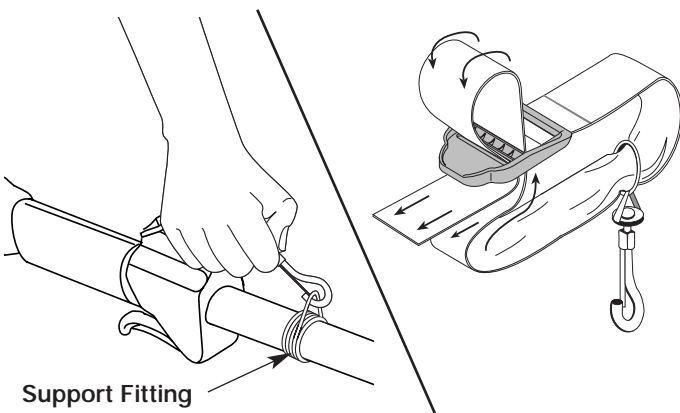

Fig. 5
2. Pull the strap over the cross bar and down through the slot in the buckle (Fig. 5).
3. Put the harness on over head and onto shoulder. Snap it on to the support fitting (Fig. 5).